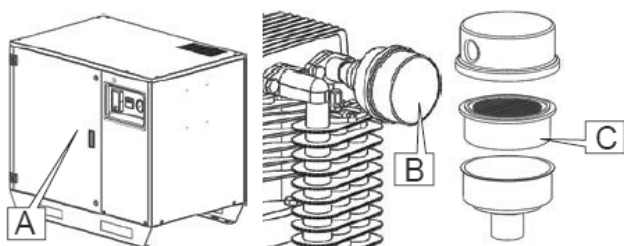

Fig. 13
- 3 Open the door with the equipped key (Pos. A, Fig. 13).